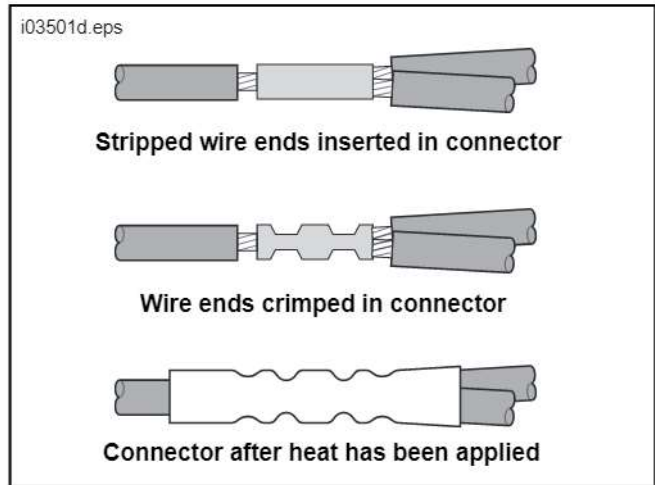

Figure 7. Installing Butt Connectors
11. See Figure 7, and the BUTT SPLICE CONNECTORS section of the Service Manual. Insert the red wire from each lighted screw into one end of a butt-splice electrical connector (15) from the kit, and secure with a Crimp Tool, Part No. H-D 38125-8.
12. Slide a piece of heat-shrink tubing (16) from the kit over the end of the red wire from the Accessory connector. Remove approximately 3/8 in. (10 mm) of insulation from the end of the wire, and insert it into the other end of the butt-splice connector. Secure with the Crimp Tool.